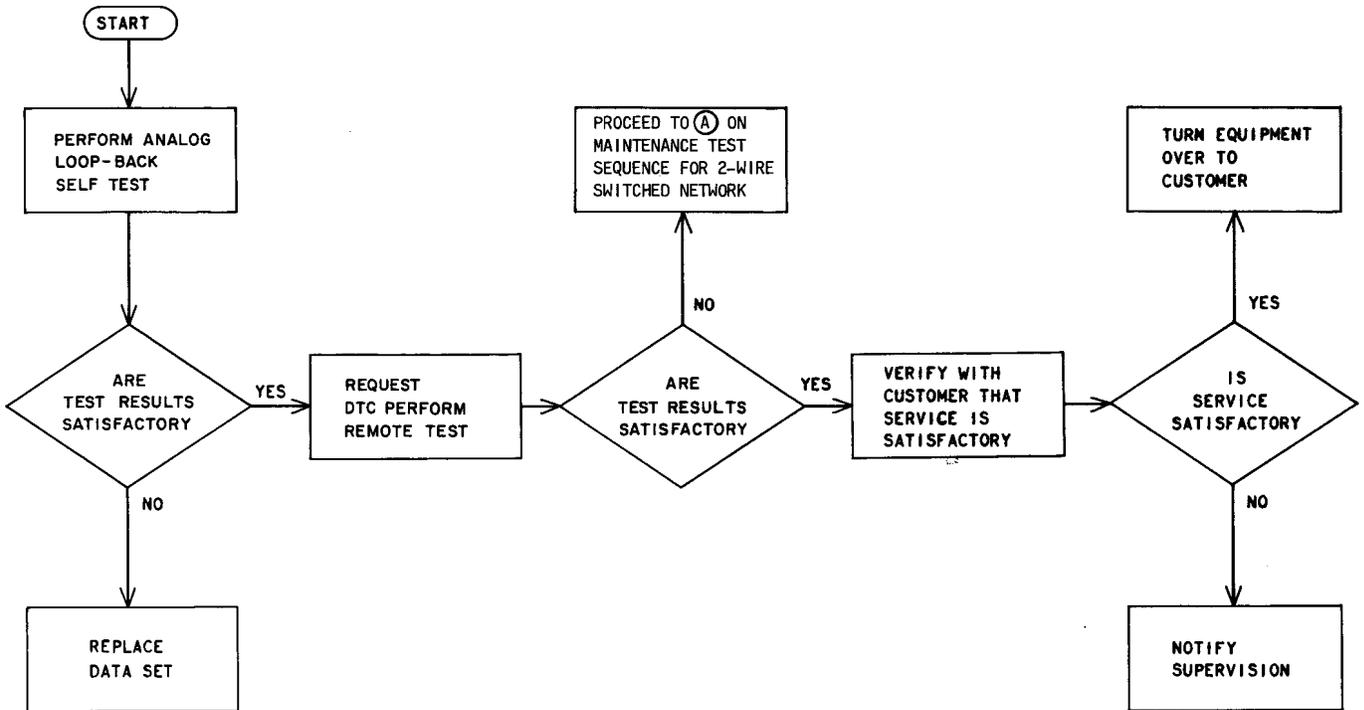

Fig. 1—Installation Test Sequence (2-Wire Switched Network)
**2.02** Before proceeding with the tests, verify that the local loop and the end-to-end facilities meet the requirements specified in Section 314-205-501. For a 2-wire switched network, the installation test sequence is shown in Fig. 1.